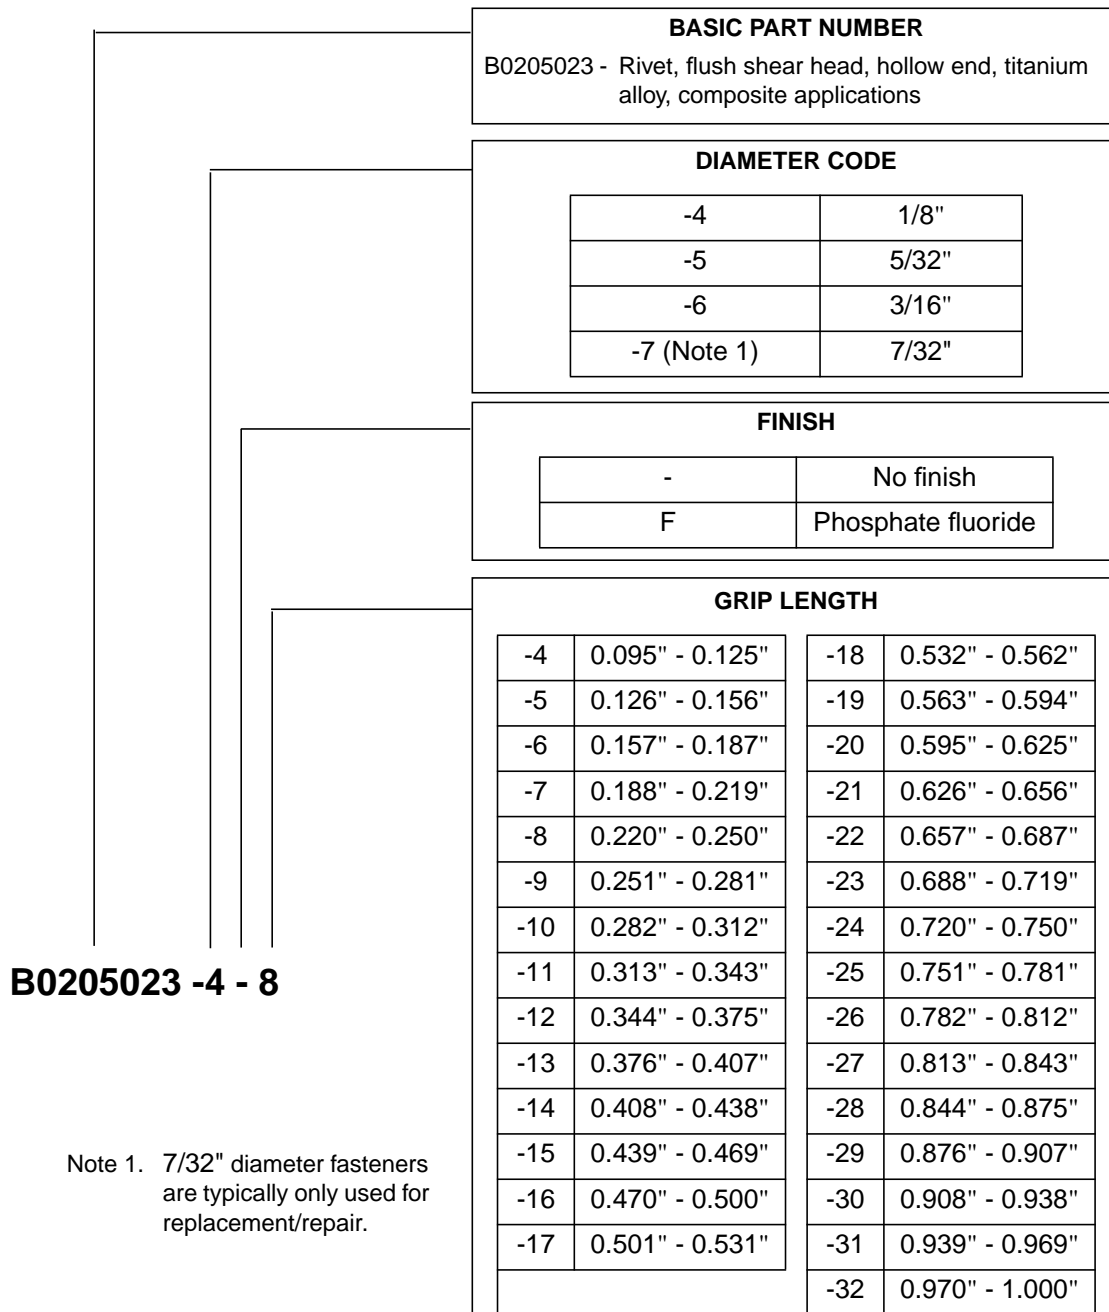
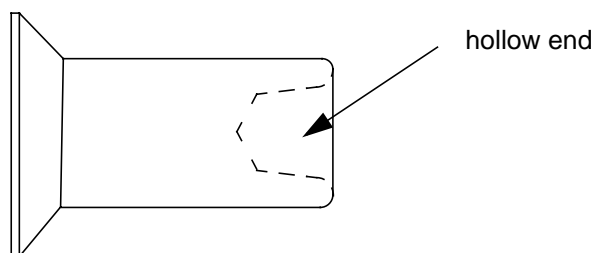

Figure 1 - B0205023 Rivet Part Number Breakdown
Figure 2 - B0205023 “E-Z Buck” Rivet Cross Section
| Figure 1 - B0205023 Rivet Part Number Breakdown | 4 |
| Figure 2 - B0205023 “E-Z Buck” Rivet Cross Section | 5 |
- 4.1.1 B0205023 rivets titanium alloy hollow end "E-Z Buck" rivets for composite applications. Refer to Figure 1 for a part number breakdown and Figure 2 for a cross sectional view.
- 5.4.1 Measure the material thickness at the hole location, as shown below (see Figure 4) to verify that the grip length specified on the engineering drawing is correct. Refer to Figure 1 for the grip range dimensions. Use a suitable measuring device to determine the grip length as no grip scale is available for these grip lengths.